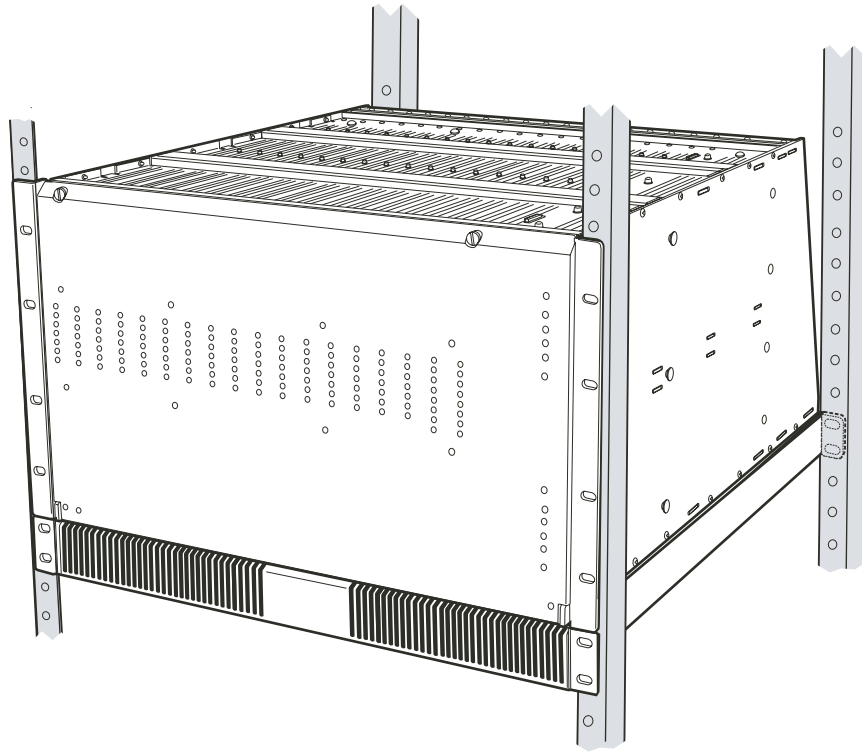

Figure 2. Mounting the CM9780-MXB on Top of the Mounting Baffle
2. Install the CM9780-MXB matrix bay on top of the mounting baffle. Refer to Figure 2.
NOTE: Figure 2 illustrates the recommended mounting method. For an alternate, open-rack mounting method, refer to the *Mounting the CM9780-MXB in an Open Rack* section in the *Appendix*.